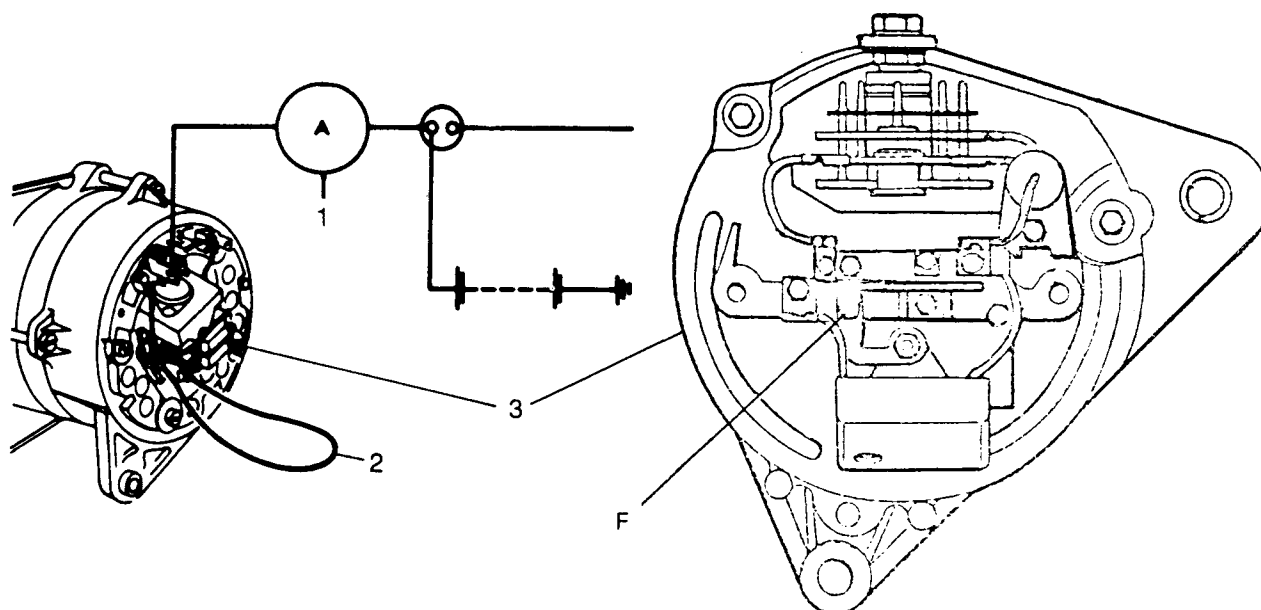

Fig O3.1
- (2) Refer to Fig O3.1. Connect ammeter (1) in series with alternator (3) main output cable and starter solenoid.
- (3) Remove connectors from alternator. Remove moulded end cover and re-make connectors.
- (4) Connect jumper lead (2) to short out the 'F' terminal to earth. (This makes regulator inoperative by effectively linking 'F' green lead to alternator frame).
- (5) Reconnect battery earth lead.
(6) Switch on all vehicle lighting, headlights on main beam. Switch on ignition and check warning light is on.
(7) Start engine, slowly increase speed to 3000 rev/min. Ammeter reading should equal maximum output of 55 amperes.